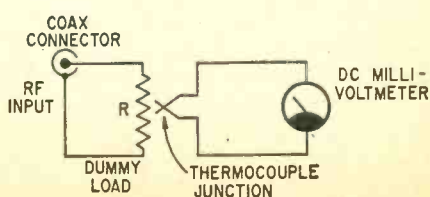

Fig. 21. Heat in dummy load generates voltage in a thermocouple junction—indicating wattage on meter.
A thermocouple can be used to sense the rise in temperature of a dummy antenna load (R), as shown in Fig. 21. The higher the load temperature, the greater the output voltage of the thermocouple. The millivoltmeter can be calibrated directly in watts.